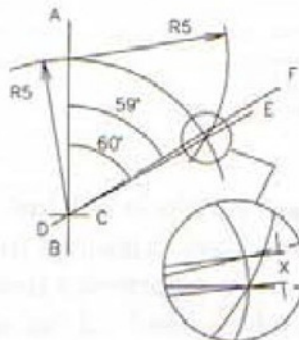

Fig.6
A very good starting point for this project is to make the rollers. Assuming that a suitable pair of gears has been acquired, the pinch roller material can be obtained. Both rollers should be of the same diameter, although the lower roller (B) is somewhat longer in order to accommodate the operating handle. If the material is to be turned on the outside diameter, they can be centre drilled and completely turned between centres. If, however, the bar is to be left as supplied, it will have to be carefully set up in order to ensure that everything is concentric. This is quite important, as if any eccentricity exists, the rollers can lock up in operation. My rollers were set up in the lathe by holding in a good 3-jaw chuck at one end and a fixed steady at the other. The steady was adjusted until the material could be proved true in two planes, using a dial test indicator (Fig.6). The bar was then centre drilled and the procedure repeated at the opposite end. It could now be turned between centres. An alternative method of setting up the fixed steady is to chuck a short piece of bar which is exactly the same diameter as the roller stock. When it is quite true, as demonstrated by the dial test indicator reading, the steady supports can be carefully brought into contact with the O/D of the bar. If the steady supports are now locked into position here, the whole steady can be moved out towards the tailstock, where the longer material can be put up in the chuck and steadied for centre drilling.
Figure 6 shows how by stepping back 1mm, dimension X, an angle which approximates to 59 deg. is achieved. Of course the 1mm dimension is taken as a straight line rather than the length of the circumference, however this in part compensates for the fact that the circumference is slightly greater than 1mm for a 1 deg. angle. The accuracy of the 57.5mm radius is not that important, as already stated, errors in this value will not effect the accuracy of the 60 deg. angle, only the 1 deg. adjustment.